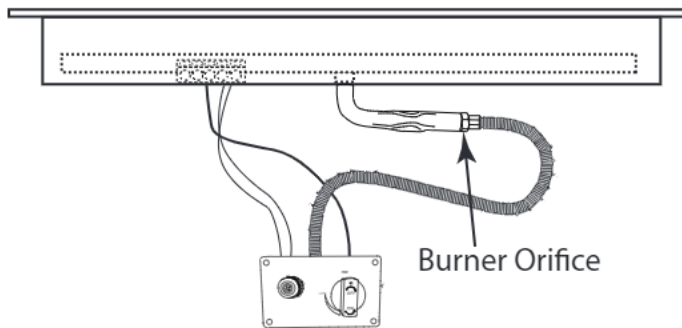

Fig. 1 Shows main burner orifice location.
**Step 4:** Remove the  $\frac{3}{8}$ " flex connector from the main burner orifice. See Fig. 1 for reference.